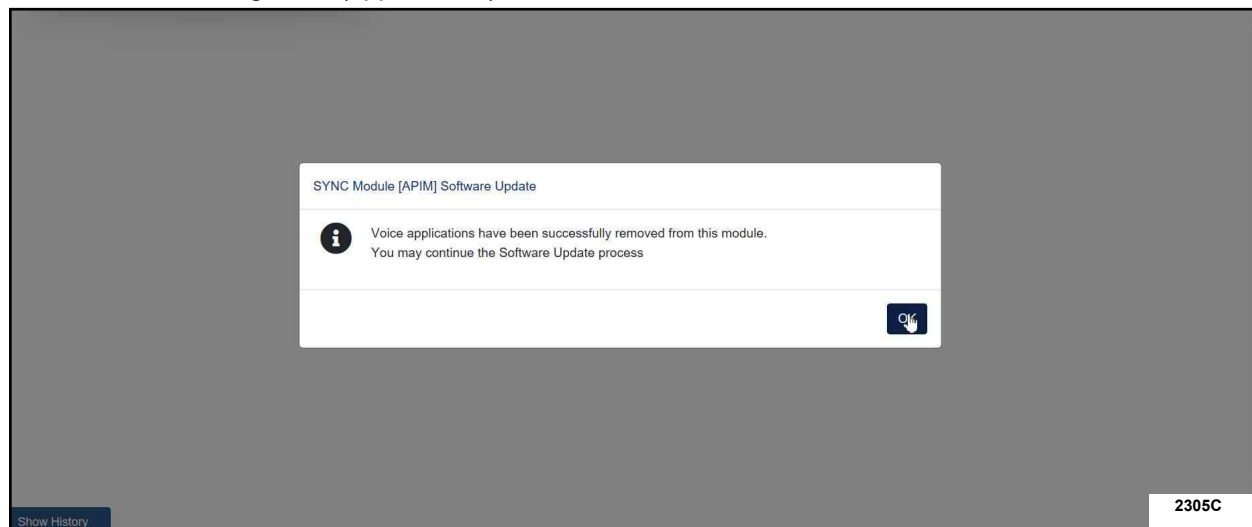

FIGURE 7
36. Continue to follow all on-screen instructions carefully until the voice application has been successfully removed. See Figure 7. (app deleted)